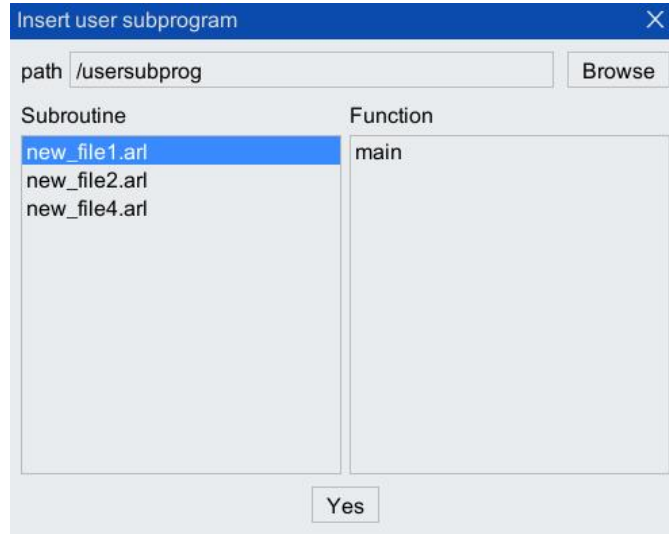

Figure 5-47 Subprogram is inserted along with its path
Step3. The programs that can be inserted under the folder (the program contains the subprograms that can be inserted) will be displayed in "Insert User Subprogram" interface, as shown in Figure 5-47.